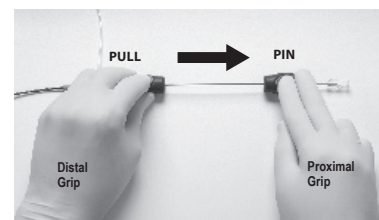

Figure 3: Stent Deployment
- Initiate stent deployment by pinning down (holding) the inner subassembly (proximal grip) in a fixed position and pulling the outer subassembly (distal grip) toward the proximal grip as shown in Figure 3.